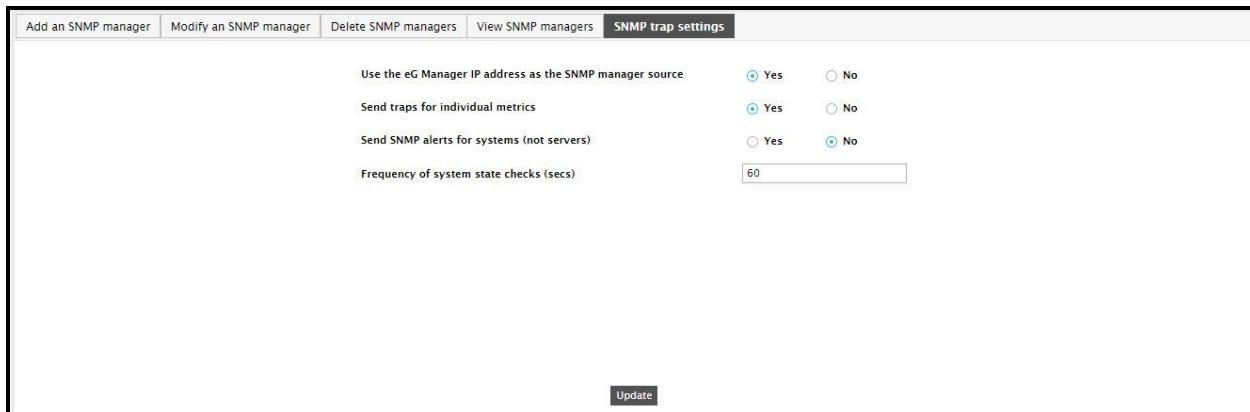

Figure 3.2: Configuring the SNMP trap settings
8. Next, proceed to configure the SNMP trap settings. For this, click the **SNMP trap settings** tab page in Figure 3.1. Figure 3.2 will appear.
9. To ensure that the SNMP trap's source field includes the IP address of the eG manager from which the traps originated, set the **Use the manager's IP address (not name)** in the **SNMP trap's source field** flag in Figure 3.2 to **Yes**. Setting this flag to **No** will include the host name of the eG manager in the source field.
Once an SNMP manager is configured, the eG manager will start sending SNMP traps to that manager, even if the **Enable TT integration over SNMP traps** flag is set to **No**. Such SNMP traps will be governed by the **Alarm types** and **SNMP Trap Settings** configured using Figure 3.1 and Figure 3.2, respectively. Moreover, such traps will not carry the TTID.
On the other hand, as soon as the **Enable TT integration over SNMP traps** flag is switched on, the eG manager will start sending SNMP traps with TTID to the same SNMP manager, alongside the SNMP traps without the TTID. The traps with TTID will be governed by the **Alarm preferences** and other settings configured in the **Common Settings** page of Figure 1.1. Also, such traps will not be affected by the **Alarm types** and **SNMP Trap Settings** configured using Figure 3.1 and Figure 3.2.